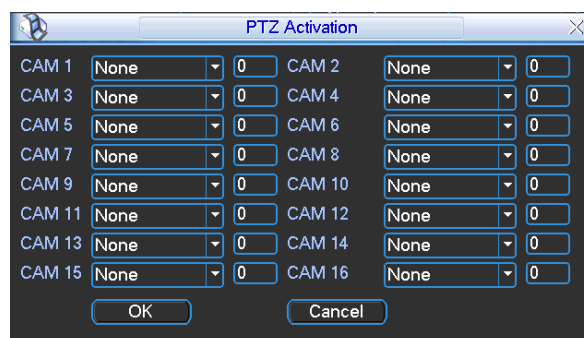

Figure 4-27
- PTZ activation: Here you can set PTZ movement when alarm occurs. Such as go to preset, tour& pattern when there is an alarm. Click “select” button, you can see an interface is shown as in Figure 4-27.